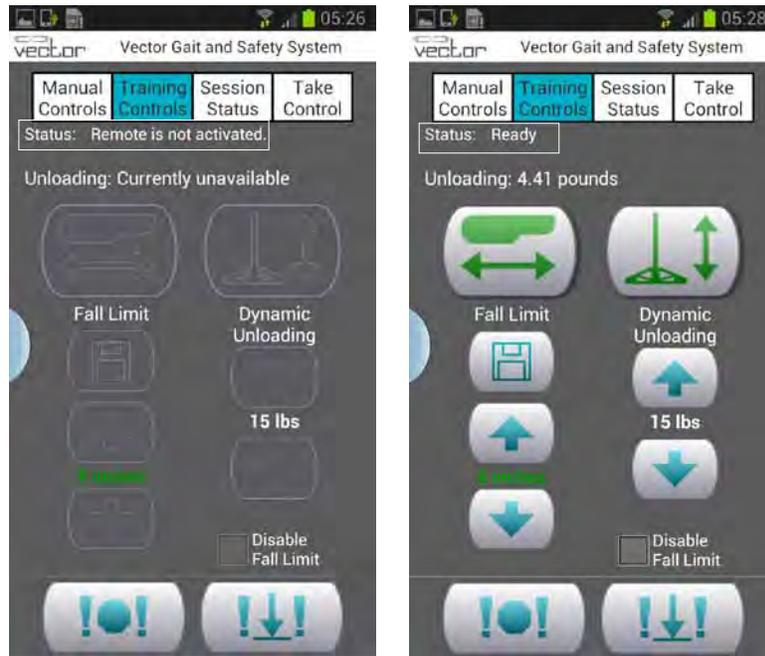

Figure 7-7: Example of Status Displays for Remote Control
1. Press the Take Control button to transfer control from the PC to the Remote Control. See Figure 7-6. Once control has been transferred, the Take Control button on the Remote Control will be disabled and the Training Controls buttons will be enabled. See Figure 7-7.
Only one device (PC or Remote Control) can be in control of the Vector Elite System at any given time. This is a safety feature designed to prevent potentially conflicting commands from being issued by different clinicians on separate devices. Both devices display on the screens whether they are or are not in control. To ensure that only one device is in control, the buttons on the device will only be active/enabled if that device is in control. See Figure 7-7.